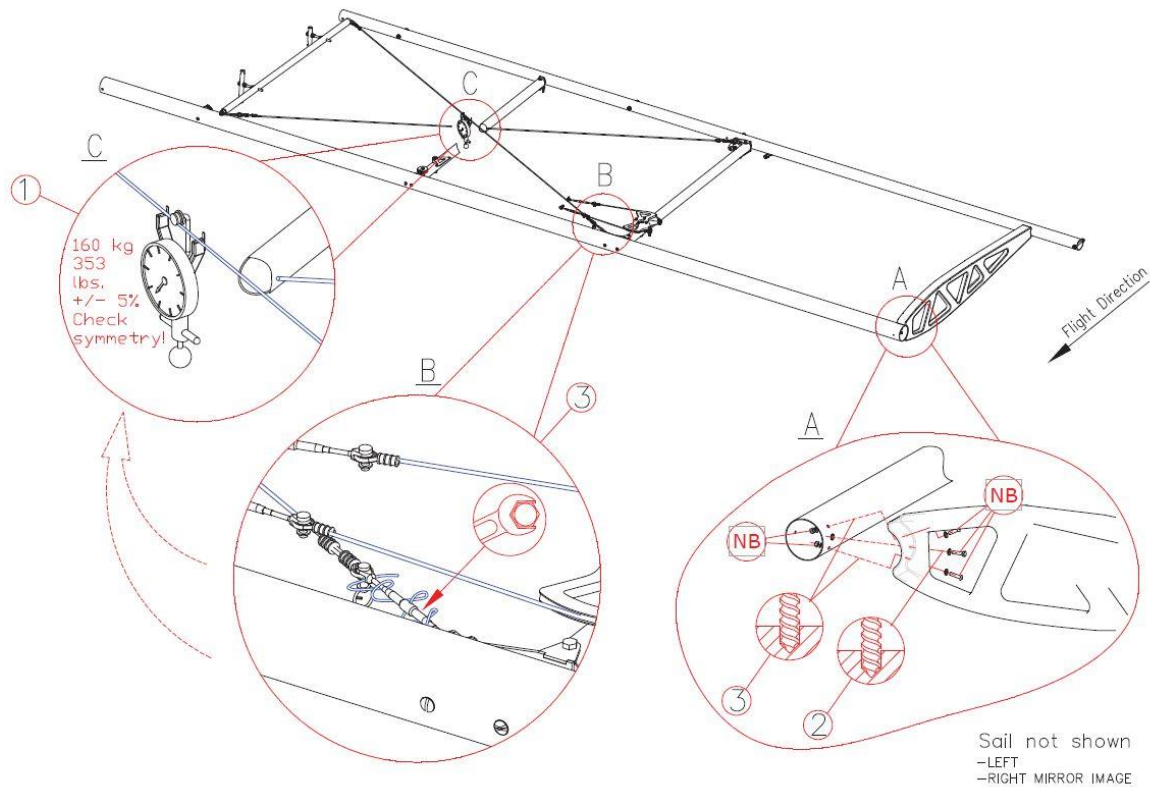

Figure 2.2.1.4: Tensioning the fuselage cables
5. Route the aileron cables back into the cockpit to the front of the centre console to reattach to the Joystick Butterfly (see figure 2.2.1.1 above).
6. Reconnect the flap pushrods (see figure 2.2.1.2 above).